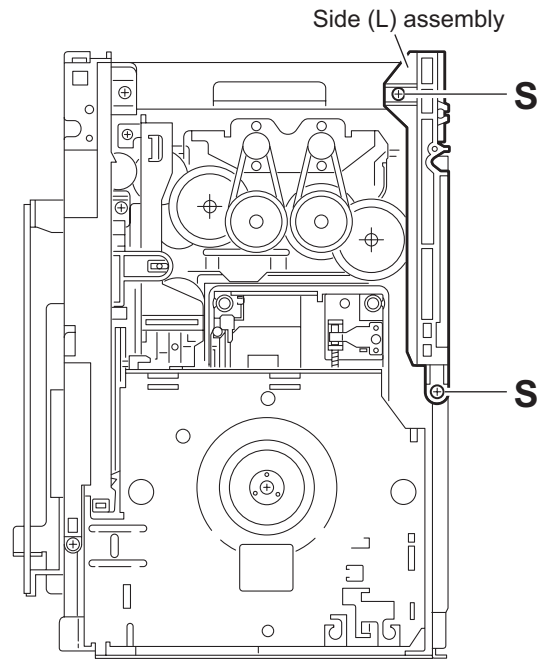

Fig.19
3.2.11 Removing the side (L) assembly and tray switch board (See Figs.19 to 21)
- (1) From the topside of the DVD changer mechanism assembly, remove the two screws **S** attaching the side (L) assembly. (See Fig.19.)